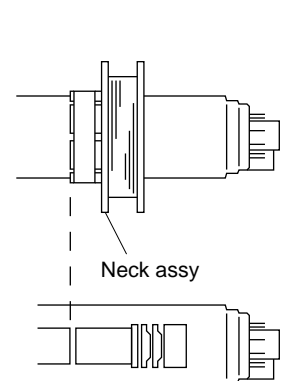

Fig. 1-3
6. Secure the neck assembly in the position shown in Fig. 1-3.